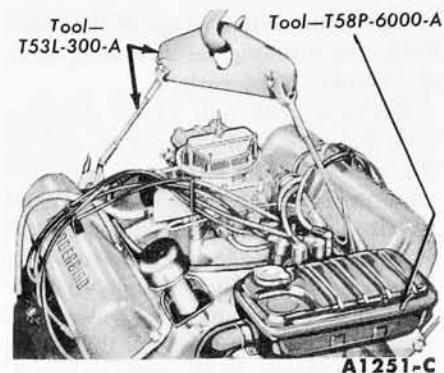

FIG. 16—Engine Lifting Brackets and Sling
Install the engine right lifting bracket at the rear of the right cylinder head. Attach the engine lifting sling (Fig. 16).
2. Attach the engine lifting brackets and sling (Fig. 16). Remove the engine from the work stand.